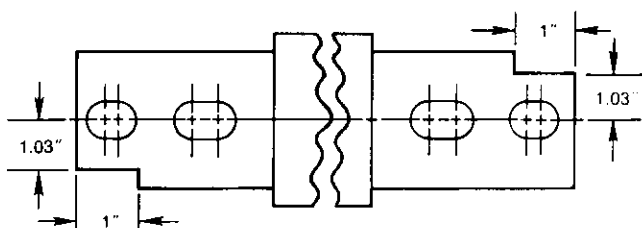

Figure 24. Notching of 1600 ampere fuse
- ① Fuse tangs must be notched per Fig. 24.
- ② The 2500 Amp. fuse size is not available on AKJU-50 models.